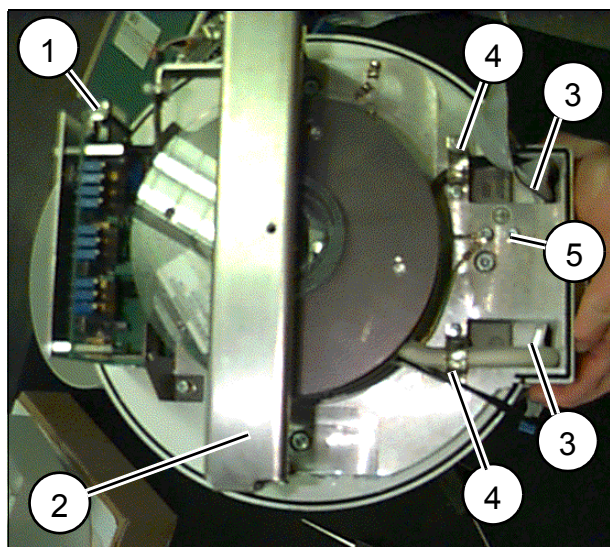
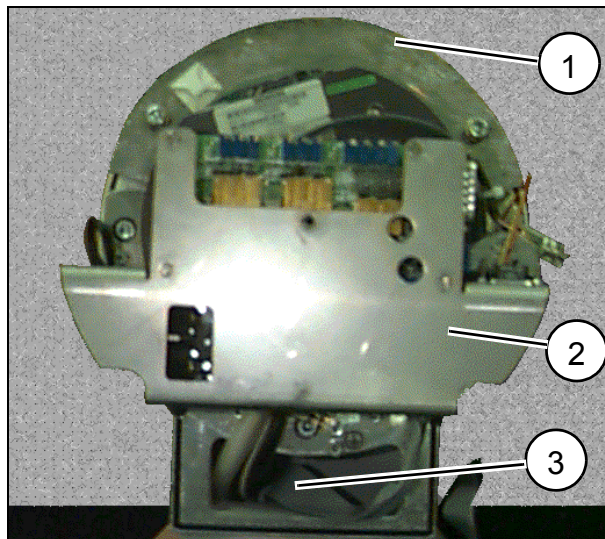

Fig. 5
Fig. 8
- Disconnect the plugs of the control panel of the I.I. mini voltage supply (1/Fig. 5).
- Disconnect the protective conductor connections and the ground screw (5/Fig. 5).
- Loosen the bracket above the camera and remove it (2/Fig. 5 or 2/Fig. 8).
- Insert the anode cables for the high voltage panel back to the high voltage panel. (3/Fig. 5).
- Reconnect the protective conductor with the ground screw (5/Fig. 5).